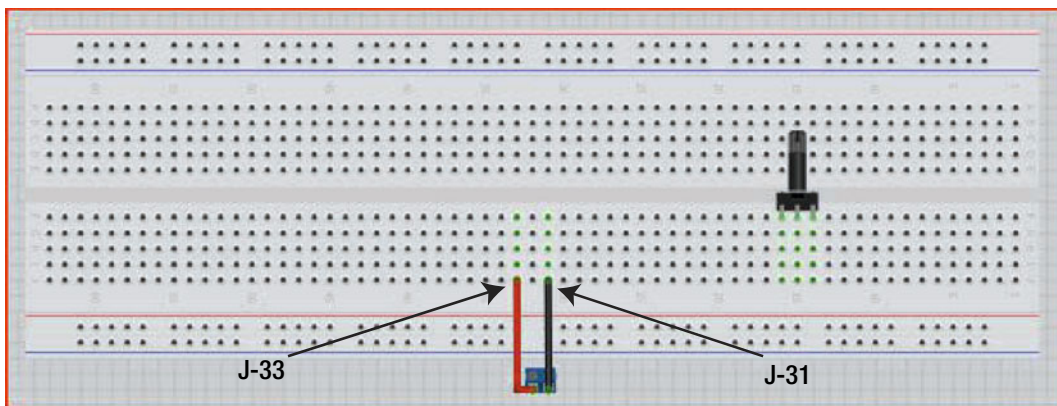

Figure 23-3. Attach the terminal block to the breadboard
- Next, attach the two-position terminal block to the solderless bread board at J-31 and J-33, making sure you have the 9V battery harness attached to the terminal block (though you won't be connecting a 9V battery to this connector; you'll be connecting 6V to the servo in the next chapter). Be sure to know which row on the breadboard will provide power (red wire) and which row is ground (black wire). In Figure 23-3, our red wire is on row 33 and our black wire is on row 31.